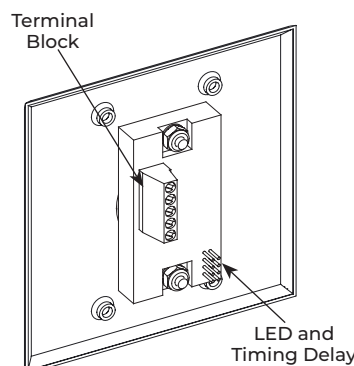

Figure 3
2. Use a small flat head screwdriver to connect 24VDC and activation wiring on the switch terminal block. (Figure 3) See “Wiring” on page 2 and refer to the appropriate wiring diagram provided with the door operator instructions.